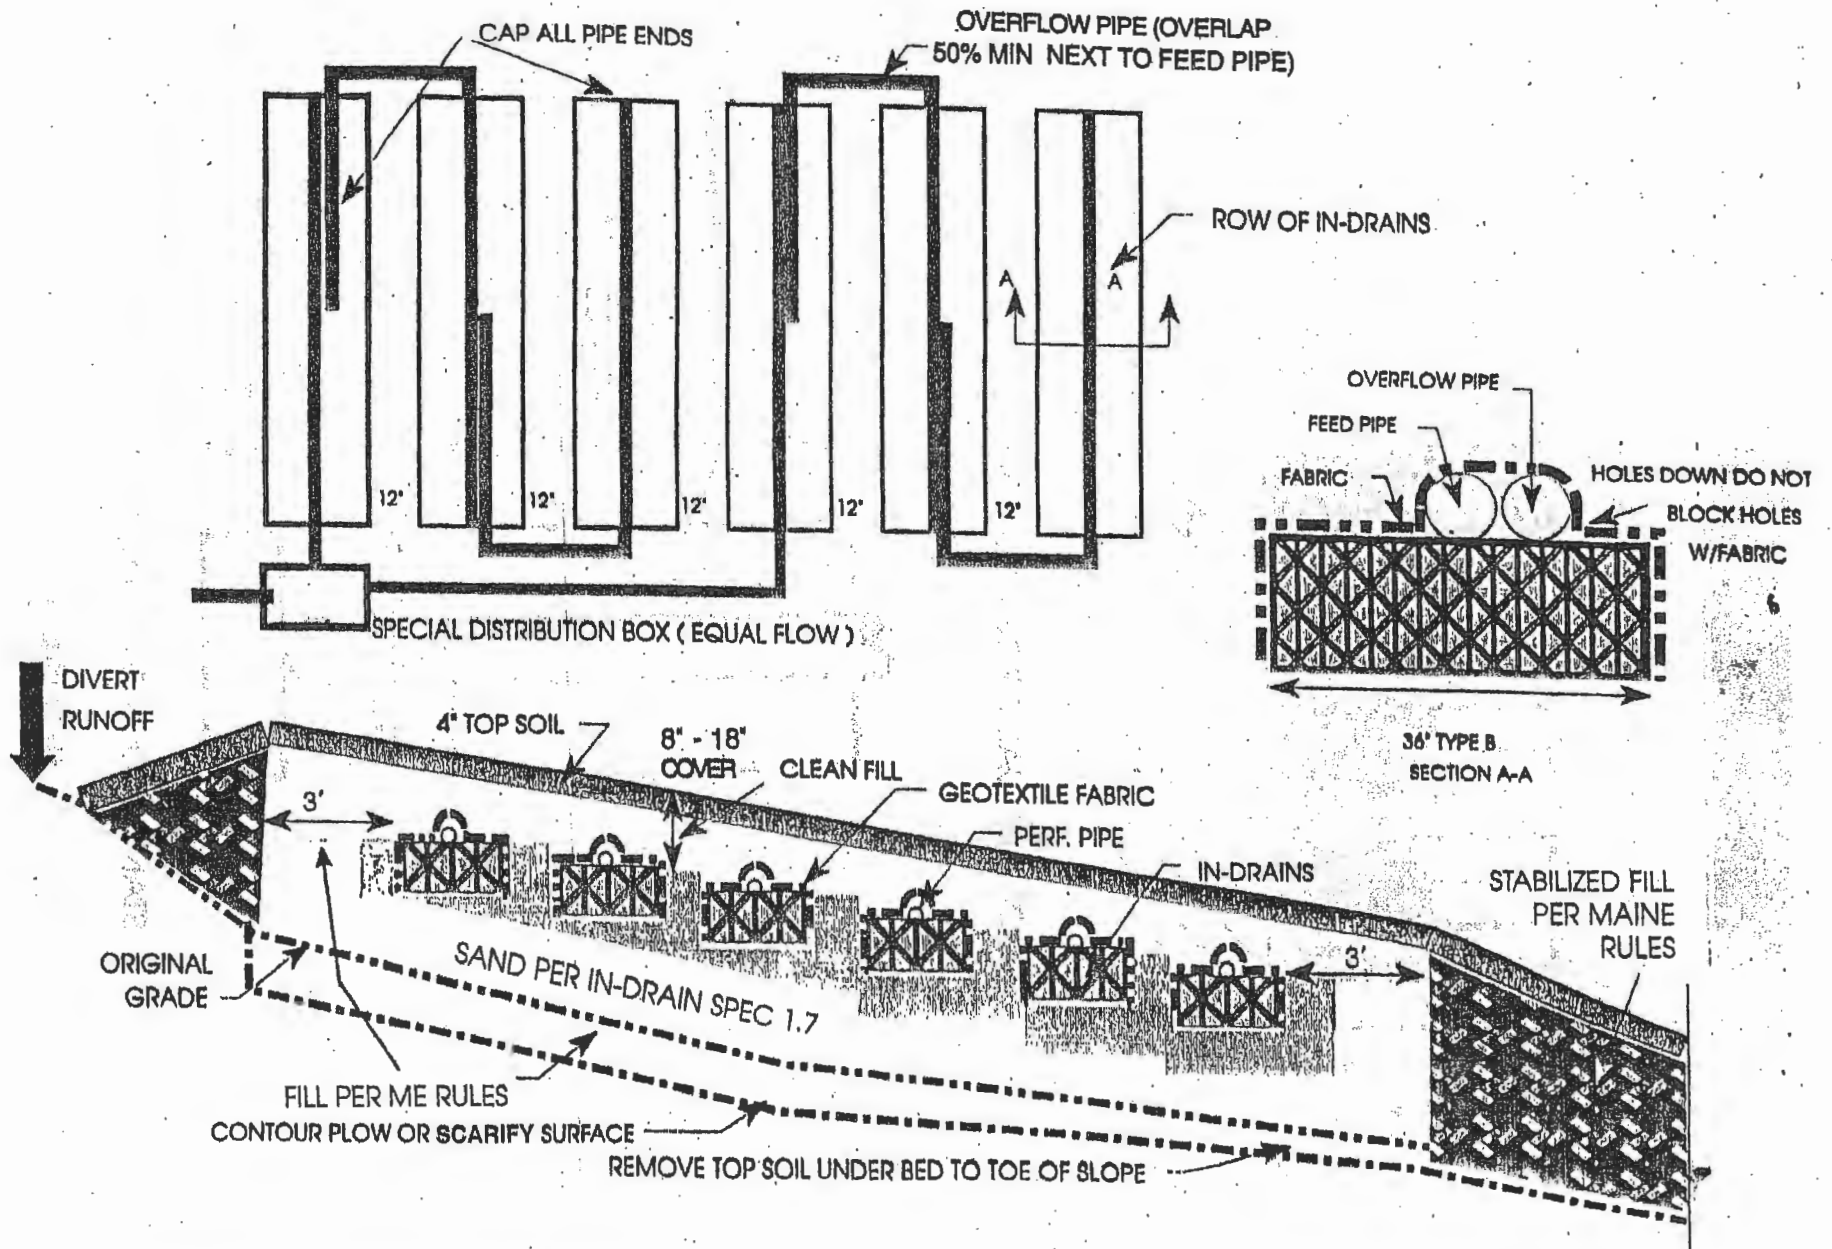

FIGURE 5. RAISED BED ON SLOPE WITH SERIAL DISTRIBUTION
- 3.3 **Distribution piping:** The distribution pipe is capped at the end of each row of In-Drains. Overflow is achieved by placing an end-capped length of perforated pipe (minimum of 10' or 50% of the In-Drain row length which ever is longer) at the end of each row next to the distribution pipe and connecting it with solid pipe to the next lower elevation row of In-Drains as shown in the Eljen Installation Instruction sheet. This procedure continues until the end of the last row of In-Drains. Refer to Figure 5 for sloped field design and section detail of over flow pipe.